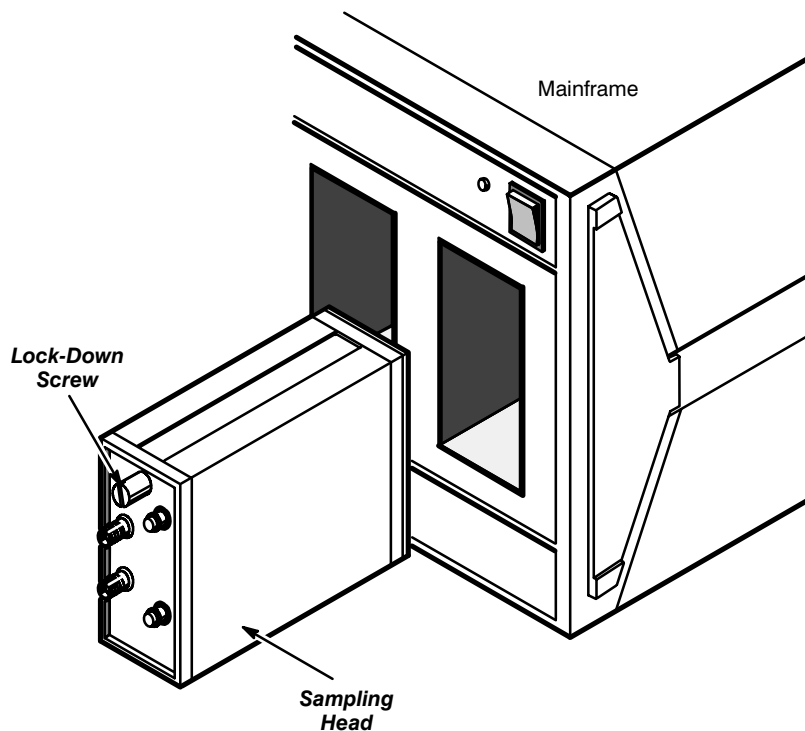

Figure 3: Installing a Sampling Head in an Instrument
- Figure 3: Installing a Sampling Head in an Instrument 10
To install a sampling head, first power-off the instrument. Then place the sampling head in a compartment and slowly push it in with firm pressure. Once the head is seated, turn the lock-down screw on the sampling head to tighten the head into place. See Figure 3.